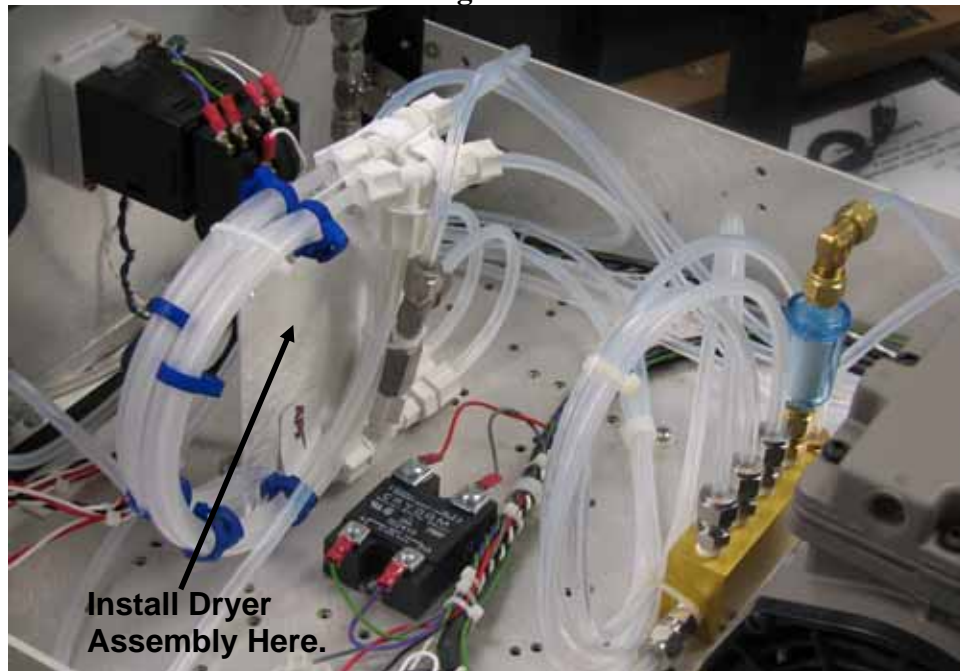

Figure 4
8. Take the dryer assembly from the KIT and install it into the pump pack using a flat head screwdriver. This assembly contains both perma pure dryers. One for the NO channel, and one for the NOy channel (See figure 4).